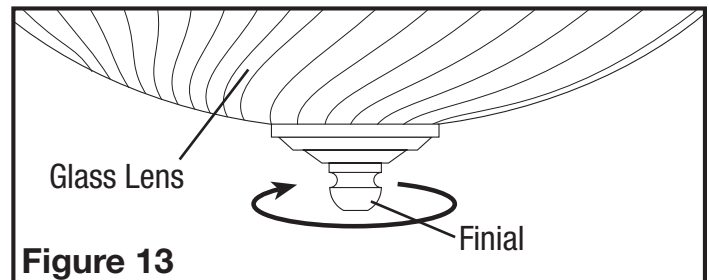

Figure 13
- AKLC70SNS, AKLC70DRSB, AKLC701, AKLC702, AKLC703:** Unscrew the finial at the top of the glass light lens. Make sure you support the light lens as you unscrew (Figure 13).